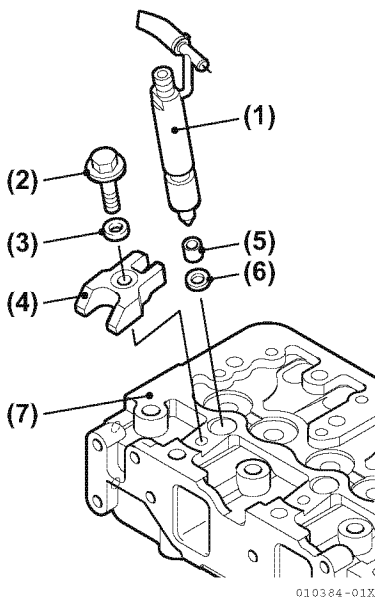

Figure 6-11
2. Install new gasket (Figure 6-11, (6)) on tip of injection nozzle (Figure 6-11, (1)) and (Figure 6-12, (5)).
3. Place the retainer ((Figure 6-11, (4)) for 3JH5E and 4JH5E or (Figure 6-12, (3)) for 4JH4-TE and 4JH4-HTE) on the injection nozzle as shown.
6. Install bolt and washer (Figure 6-11, (2, 3)) and tighten to 26 N·m (19.2 in.-lb).